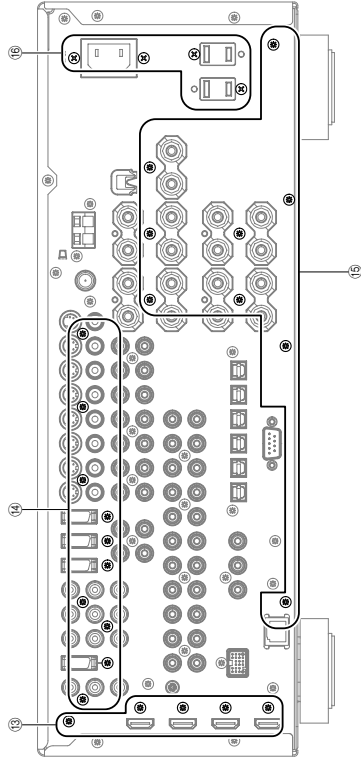

Fig. 5
- Remove 5 screws (⑬). (Fig. 5)
- Remove 6 screws (⑭). (Fig. 5)
- ⑬のネジ5本を外します。(Fig. 5)
- ⑭のネジ10本を外します。(Fig. 5)
- Remove 10 (U, C, T, A, B, G, E models) / 13 (R, L models) screws (⑮) and 4 (U, C, R, T, A, B, G, E, L models) / 2 (K model) screws (⑯). (Fig. 5)
- ⑮のネジ9本、⑯のネジ4本を外します。(Fig. 5)